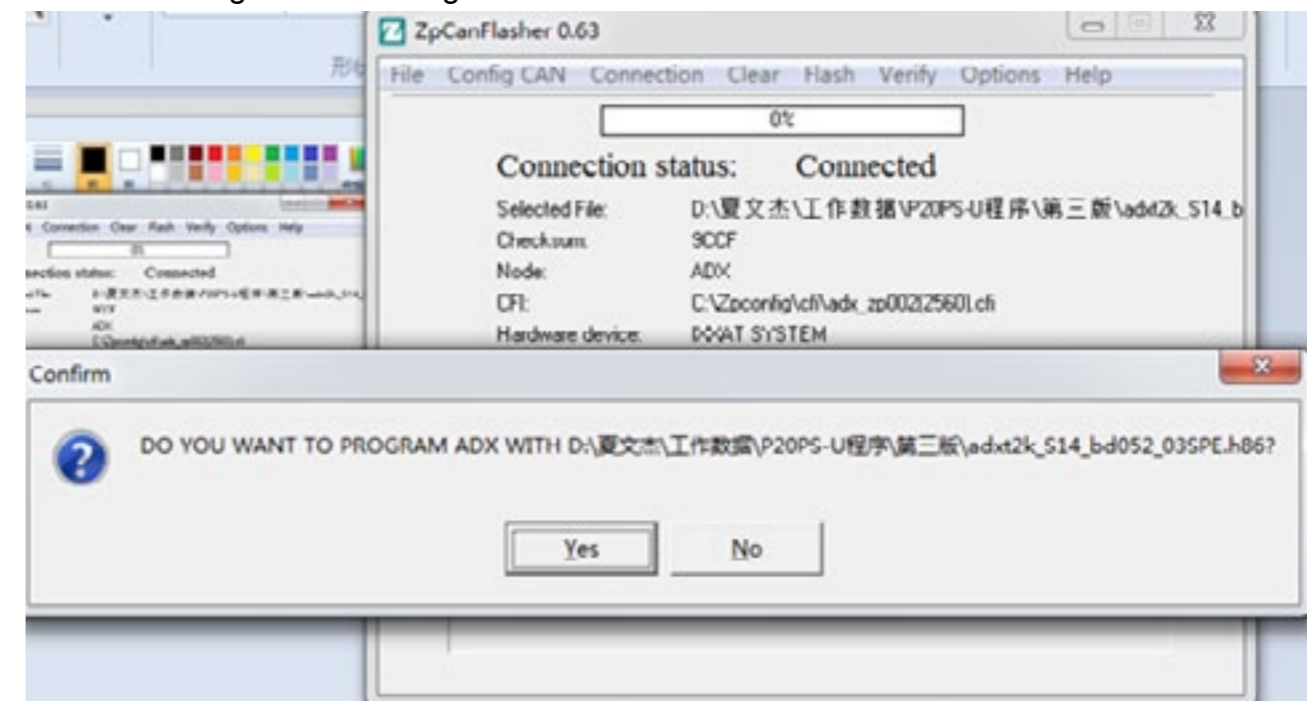
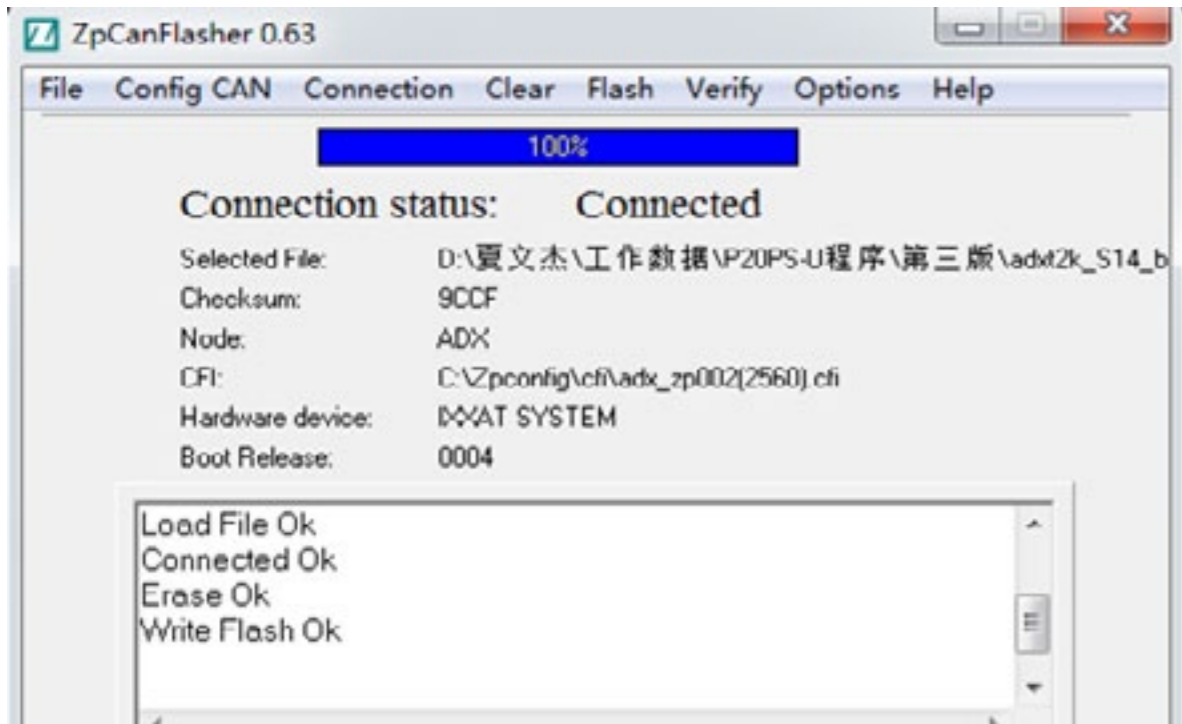

Fig.1.1.15
Fig.1.1.16
9. When the software is written successfully, “Write Flash Ok” will appear in the dialogue, as shown in Fig.1.1.16 and Fig.1.1.15.
9. When the software is written successfully, "Write Flash Ok" will appear in the dialogue, as shown in Fig.1.1.16.